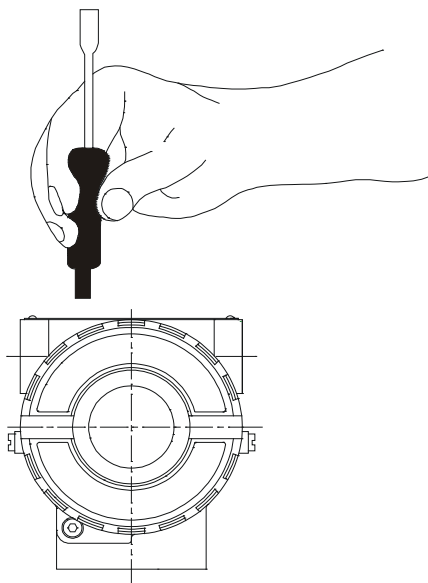

Figure 4.2 – Local Zero and Span Adjustment
- ✓ Insert the magnetic tool in the ZERO adjustment hole (see Figure 4.2)